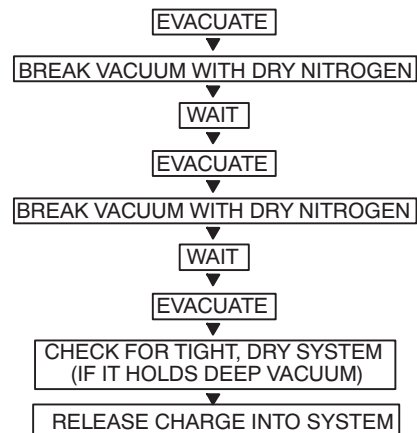

Fig. 8 — Triple Evacuation Method
The triple evacuation method should be used. Refer to Fig. 8 and proceed as follows:
5. Repeat this procedure as indicated in Fig. 8. System will then be free of any contaminants and water vapor.